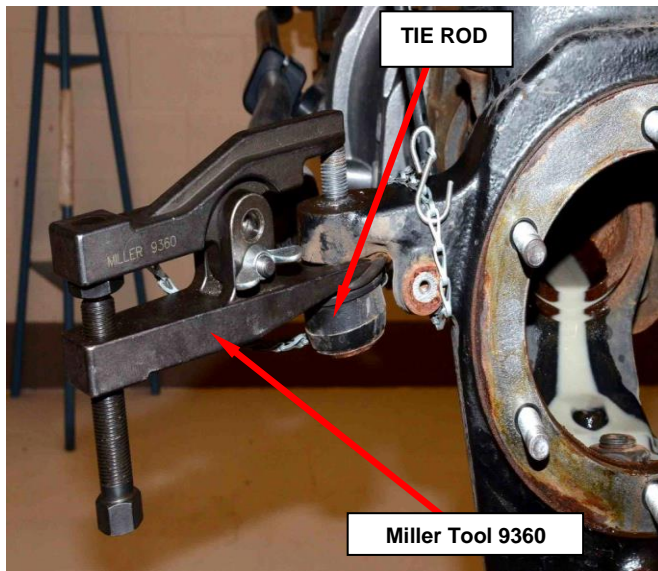

Figure 7 – Miller Tool 9360
11. Disconnect the tie rod end from the steering knuckle using Miller Tool 9360 or equivalent (Figure 7).